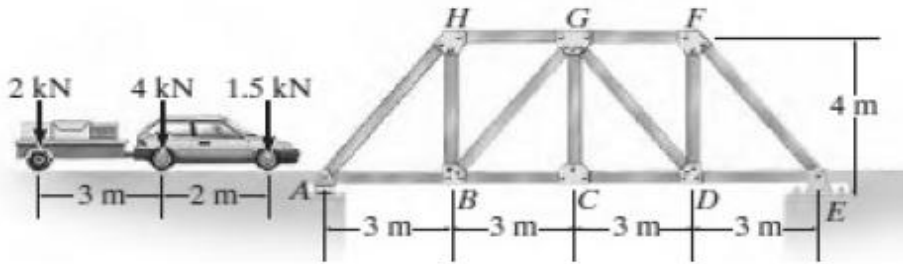

Fig.6
4. Determine the maximum compressive force developed in member *BG* of the given truss (refer Fig.6) due to the right side wheel loads of the car and trailer. Assume the loads are applied directly to the truss and move only to the right.